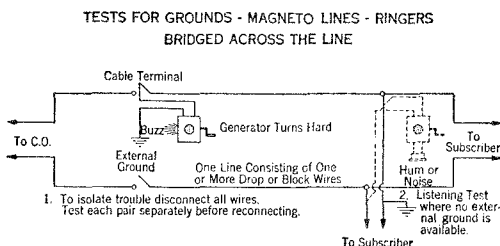

Fig. 6
2.10 Where it is possible to ground one lead of the test set on a metal terminal case, messenger strand, anchor guy, etc., the grounding test is usually effective in isolating the fault to a particular portion of the drop or block wire. (See Figure 6.)
2.13 To make the listening test (see Figure 6) disconnect both conductors of the drop or block wire at a point where the disconnection can conveniently be made. Connect the leads of the test set to the two conductors on the station side of the disconnection and listen for noise in the receiver. If the line is noisy, a ground is located in the portion of the circuit tested. If no noise is detected the disconnected wires should be reconnected and the